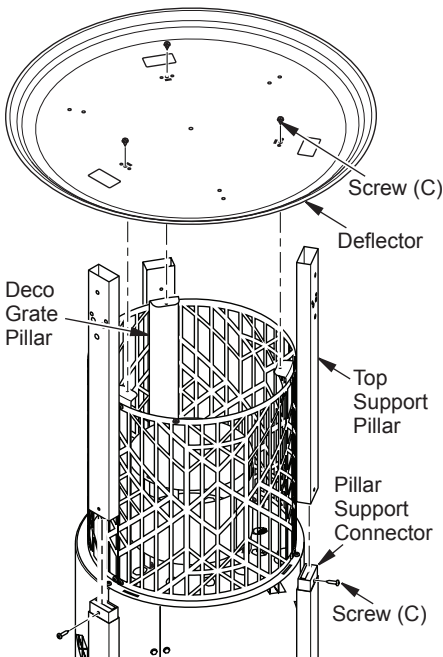

Figure 8 - Deflector and Top Support Pillar Assembly
14. Position 3 top support pillars over pillar support connectors. Secure each set with 1 screw (C) each (see Figure 8).
15. Place deflector over top support pillars and deco grate pillars. Attach deflector to deco grate pillars with 3 screws (C). See Figure 8.